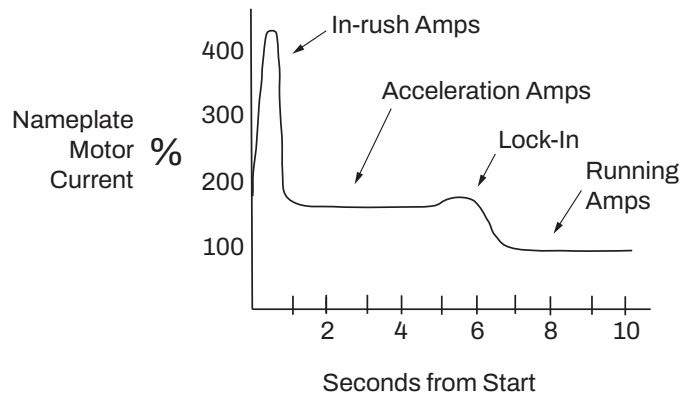

Figure 2 - Typical Motor Current vs. Time
4. Push start button. Observe motor current during load acceleration and number of seconds required to reach full speed (Fig. 2).